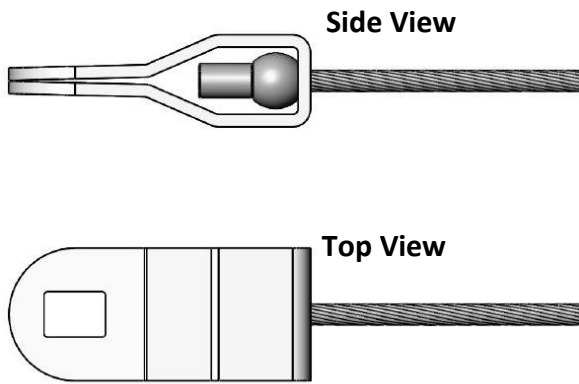

Figure 3 – Clevis Installed on Inner Wire
- With the clevis end installed on the ball end of the inner wire, insert the wire into the cable housing. Once the majority of the wire has been fed through, attach the clevis to the hook on the park brake adjuster. See Figures 3 & 4 below for references.